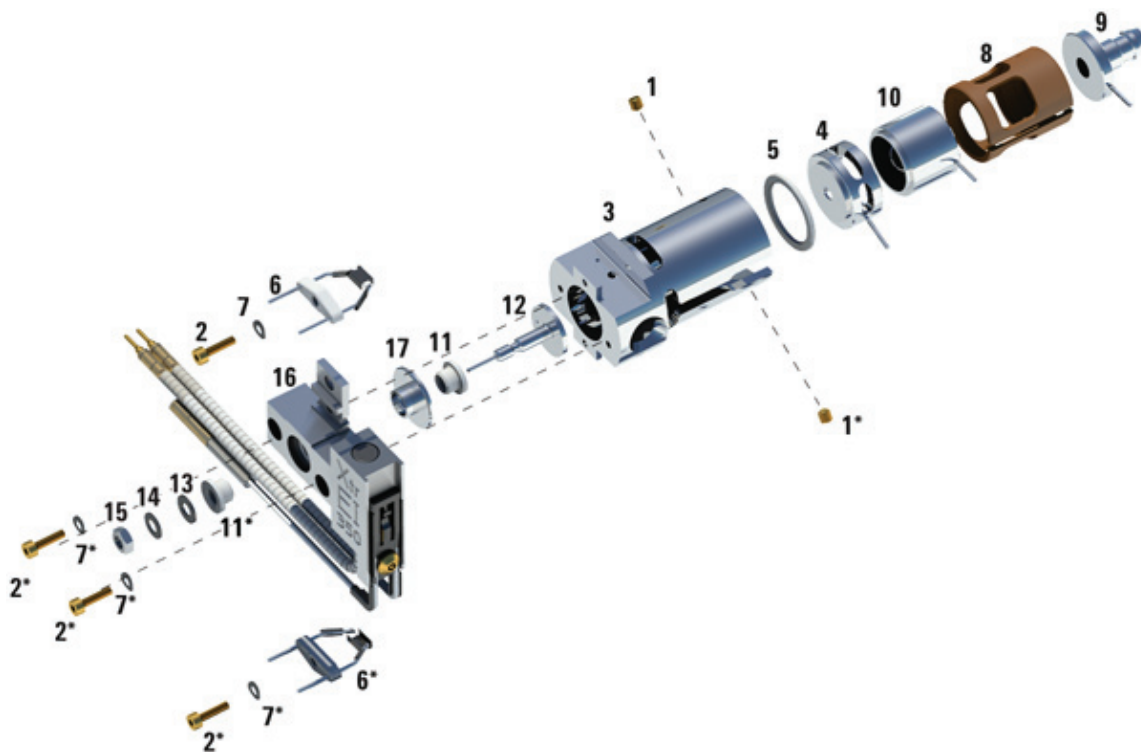

Figure 52. Disassembling the EI XTR source
Refer to the exploded parts view and the EI XTR parts list while using this procedure. (See Figure 52 and Table 16 on page 171.)
- 3 Separate the source heater assembly from the source body by removing the two screws. The source heater assembly includes the source heater, repeller, and related parts. (See Figure 52 and Table 16 on page 171.)
- 4 Disassemble the repeller assembly by removing the repeller nut, washers, ceramic insulators and repeller. (See Figure 52 on page 171.)
- 6 Pull the lenses out of the source body and separate the lens insulator, ion focus lens, extractor lens, extractor lens insulator, and extended entrance lens. (See Figure 52 on page 171.)
Table 16 Parts list for EI XTR source (Figure 52)
Table 16 Parts list for EI XTR source (Figure 52) (continued)